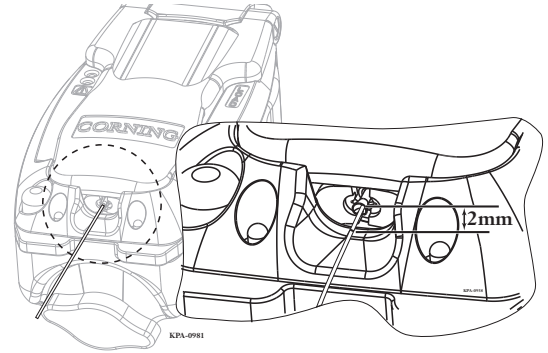

Figure 40 — Insert Fiber into Lead-in Tube
Step 1: Insert a cleaved fiber into the back of the lead-in tube. Insert the fiber until you feel it firmly stop against the fiber stub. The visual mark on the fiber should be within 2 mm of the lead-in tube (Figure 40).